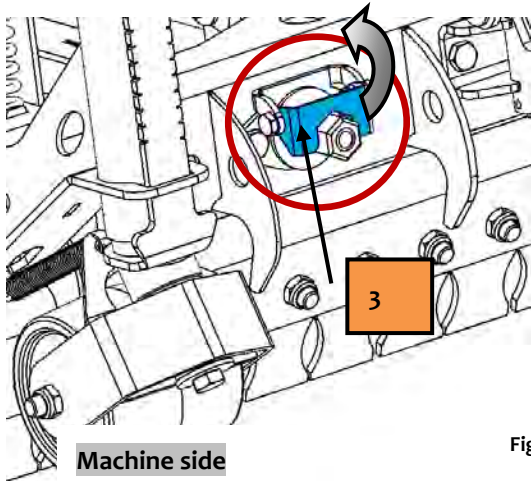

Fig. 14
Pull the spring bolts (3) ↘ on both sides upwards, rotate around 180° and lock in position (in nick) → Fig. 14.
Pull main gripping in the corresponding borehole position (Fig. 19) and insert bolt again (see fig. 17). Secure bolt with safety clip (as shown in fig.17) again. Rotate the spring bolt again around 180° (as shown in fig.14) and lock in position (see adjustment sticker at the device).